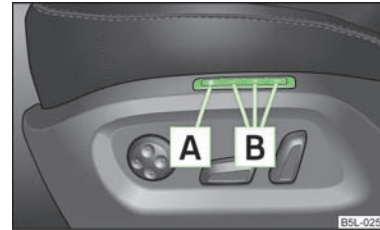

Fig. 44
The memory function for the driver's seat provides the option to store the individual positions of the driver's seat and the external mirrors. A setting position can be allocated to each of the three memory buttons **[B]** » Fig. 44, i.e. three in total.
- Press the button **(SET) [A]** » Fig. 44.
- › **One-touch automatic memory:** briefly press the desired memory button **[B]** » Fig. 44. The seat and exterior mirror are moved automatically into the stored positions (this applies only if the ignition is switched on and the speed is less than 5 km/h).